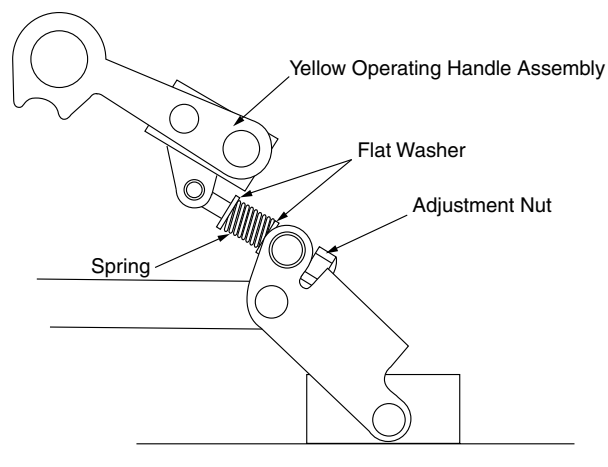

Figure 15.
11. Remove the yellow operating handle adjustment nut, two flat washers, and spring. See Figure 15.
8. Replace the yellow operating handle spring, two flat washers and adjustment nut. See Figure 15.